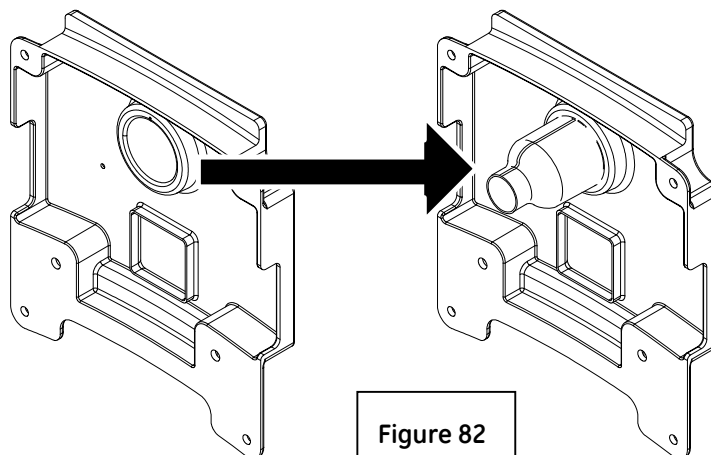

Figure 82
- H. Attach the Cable Clamp, removed in Step G, to the In Room Display mount (5133768-3), which is attached to the Pivot Bracket, with M6 X 12 screw. (2109873-24) **(Fig 82)**
- I. On the Monitor Interface Cover, carefully turn inside-out the flexible tube housing to the other side of the cover. **(Fig 82)**